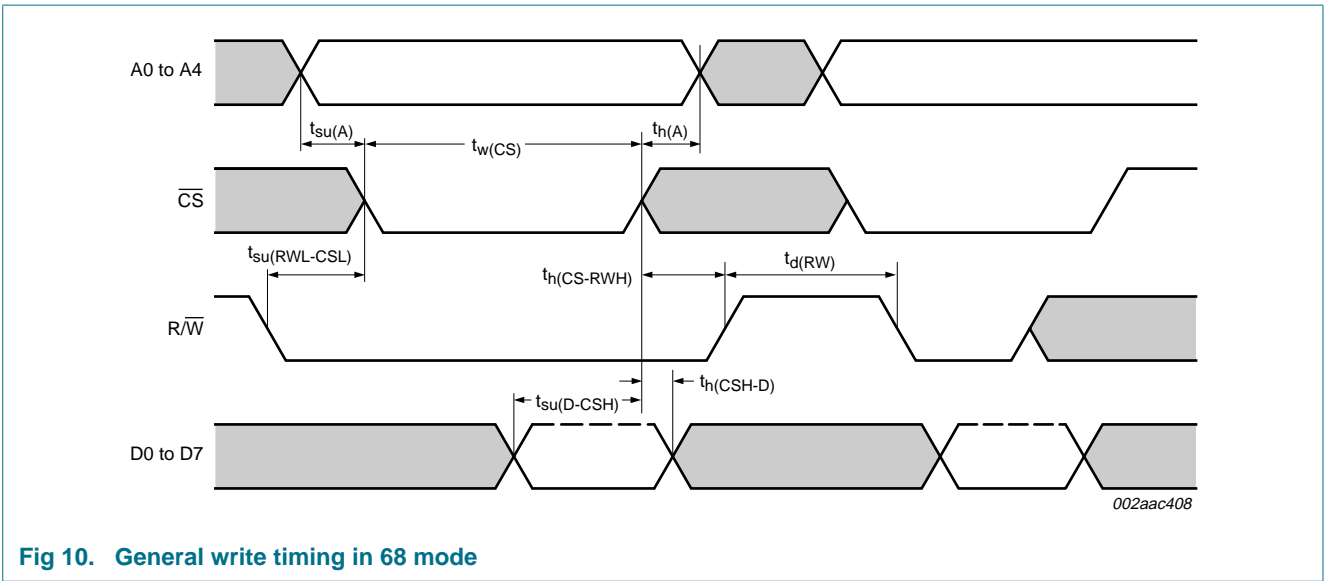

Fig 10. General write timing in 68 mode
- (1)  $\overline{CS}$  timing during a write cycle. See Figure 10.